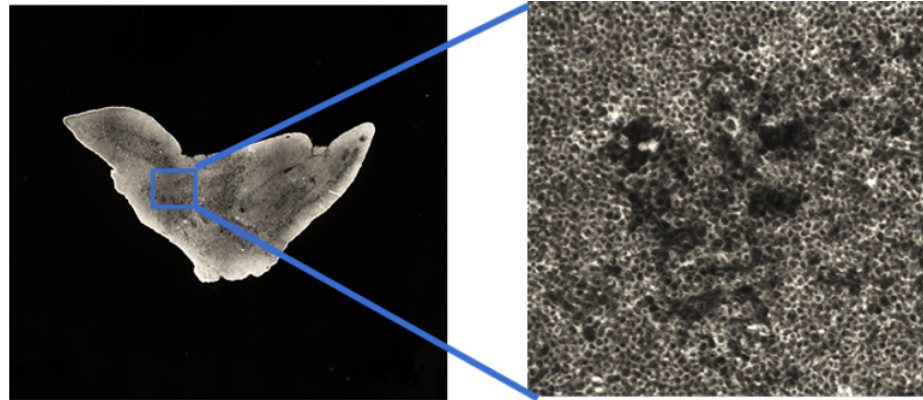

Figure 3. IF staining of the mouse thymus
- l. Based on the results of the immunofluorescence staining image, whether the TotalSeq™-A primary antibody has been successfully bound to the antigen can be determined. The judging criteria are dependent on the type of antibody added, and the images obtained should be consistent with prior knowledge of immunofluorescent staining. Using Figure 3 as an example, due to the addition of multiple primary antibodies, fluorescent signals are almost across the thymus tissue (Figure 3, left image). The cell membrane staining can be clearly visualized after magnification, indicating that primary antibodies are successfully bound to the target antigen (Figure 3, right image).